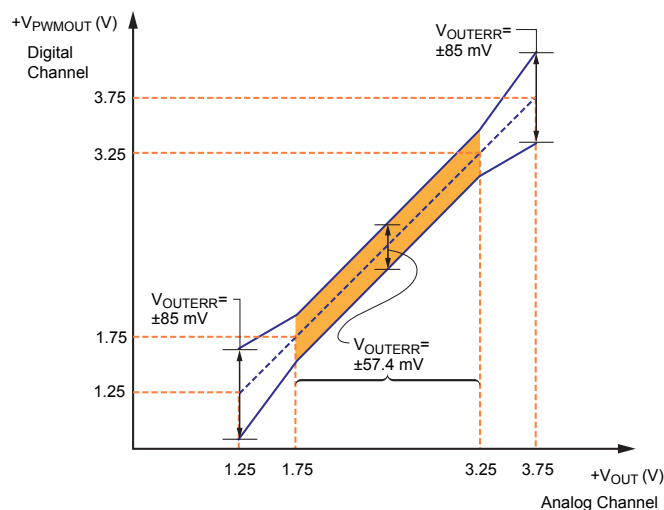

Figure 6: Definition of PWM to Analog Output Mismatch,  $V_{\text{OUTERR}}$
$D_{\text{(Q)}}$  is the quiescent PWM signal with no input field ( $B = 0 \text{ G}$ ), and  $D_{\text{(field)}}$  is the PWM signal in response to the input magnetic field. In other words, the product of PWM sensitivity (%D/G) and input magnetic field (G). (See Figure 6.)